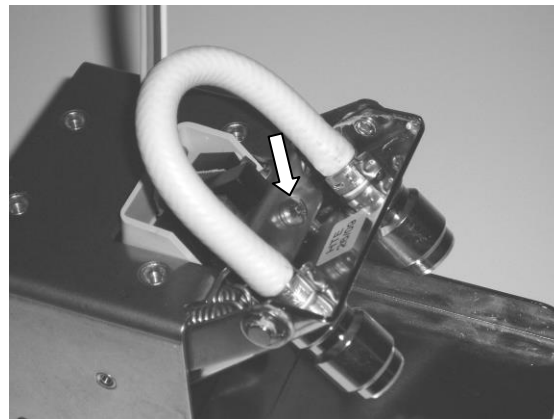

Figure 17
- 4.20 Once the shunt switch cover is secured, tighten the screw left loose earlier (see Figure 17).